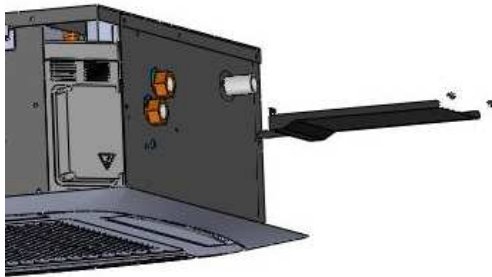

Figure B.8.1
1. Align the two screw holes in the fixing plate to the two holes in the external drain pan. (Figure B.8.1 and B.8.2)